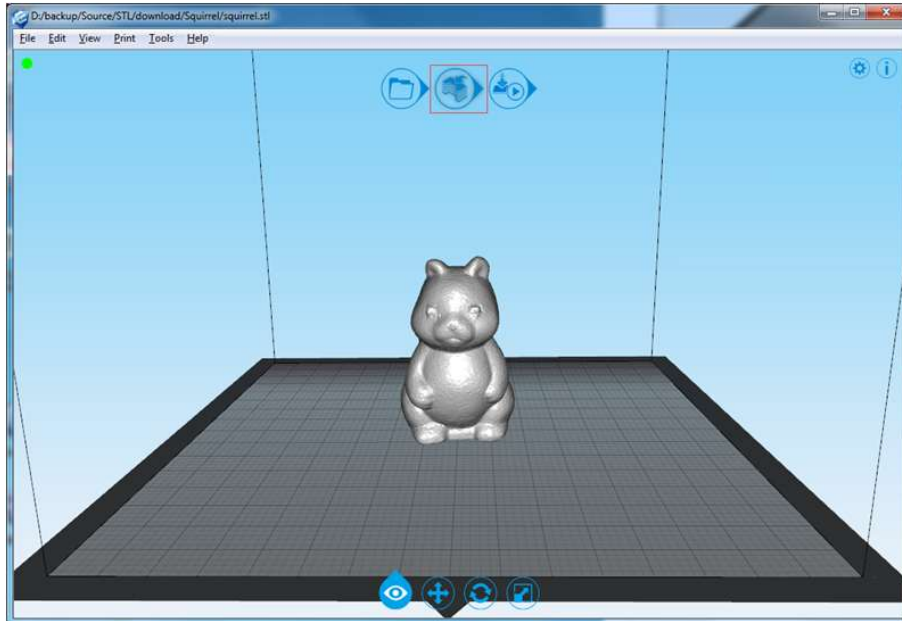

Figure 4.5
7. Make generating path, see figure 4.5. You can change the parameter by clicking